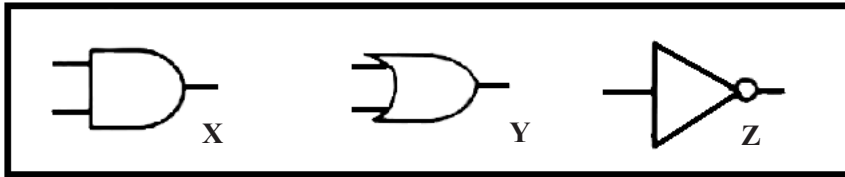

Figure 5
(b) Study the symbols shown in **Figure 5** then fill in the missing words in the sentences below.
- (i) The symbols in **Figure 5** are all examples of gates. (1 mark)